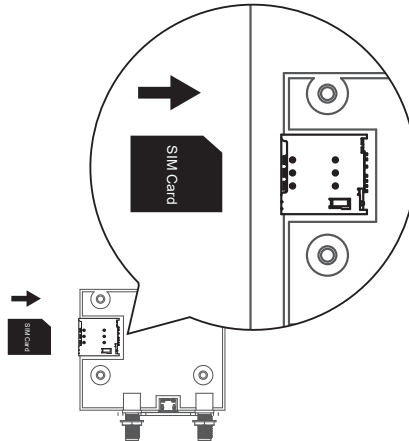

Figure 33. SIM Card Insertion
2) Insert a 3G/4G Micro SIM Card in the tray, make sure the gold contacts are facing down and the notch is in the upper right corner. See Figure 33.